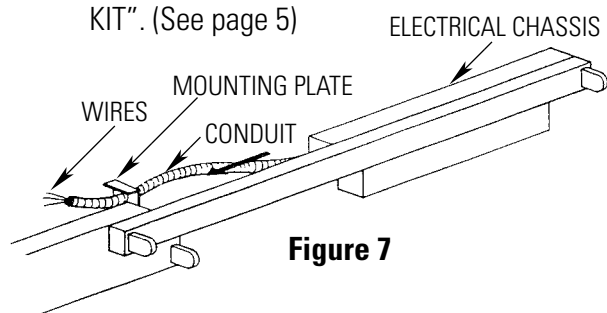
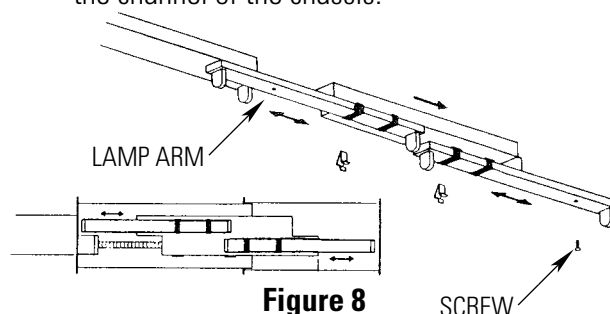

Figure 7
Figure 8
- Fixture runs that end with a tele section, will use a tele electrical. There is a one-lamp tele electrical (Fig. 7) and a two-lamp tele electrical (Fig. 8)
- Follow steps A & B of the one lamp tele. (Fig. 7)